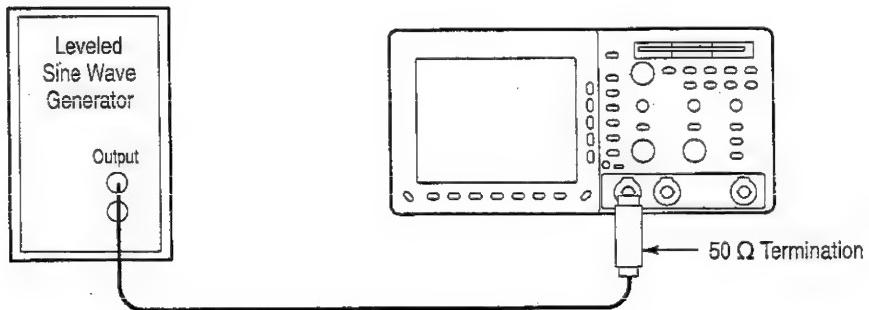

Figure B-3: Hookup for analog bandwidth check
1. Connect, through a $50\ \Omega$ precision cable and a $50\ \Omega$ termination, the sine wave output of a leveled sine wave generator to **CH 1** (see Figure B-3). Set the output of the generator to a reference frequency of 50 kHz.